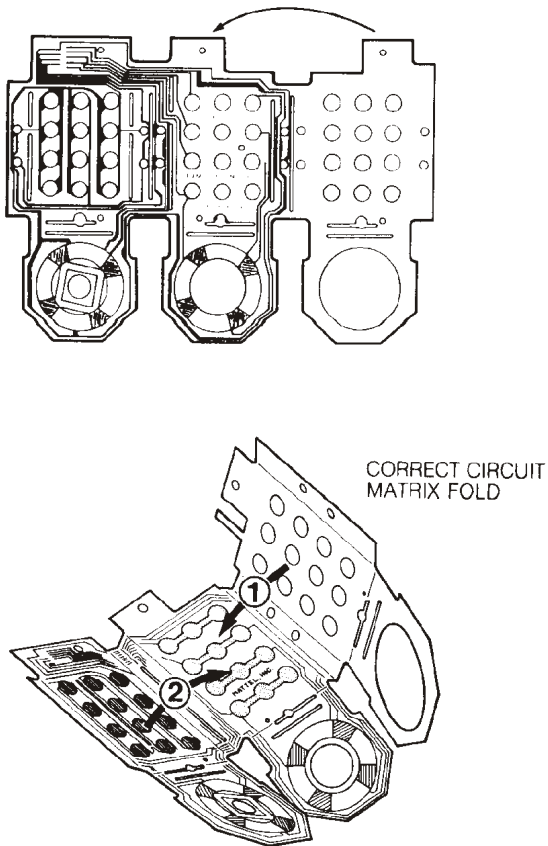

Figure 12
(2) Make sure the replacement circuit matrix is correctly folded as shown in Figure 12 below.